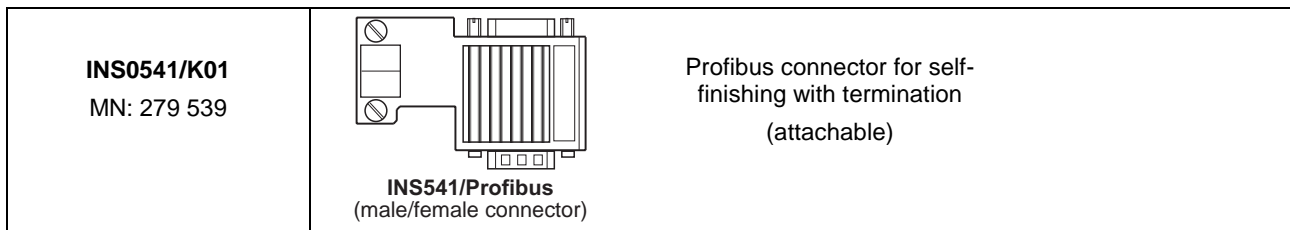

Fig. 13-1: MTS-R accessories
- Fig. 13-1: MTS-R accessories 13-3